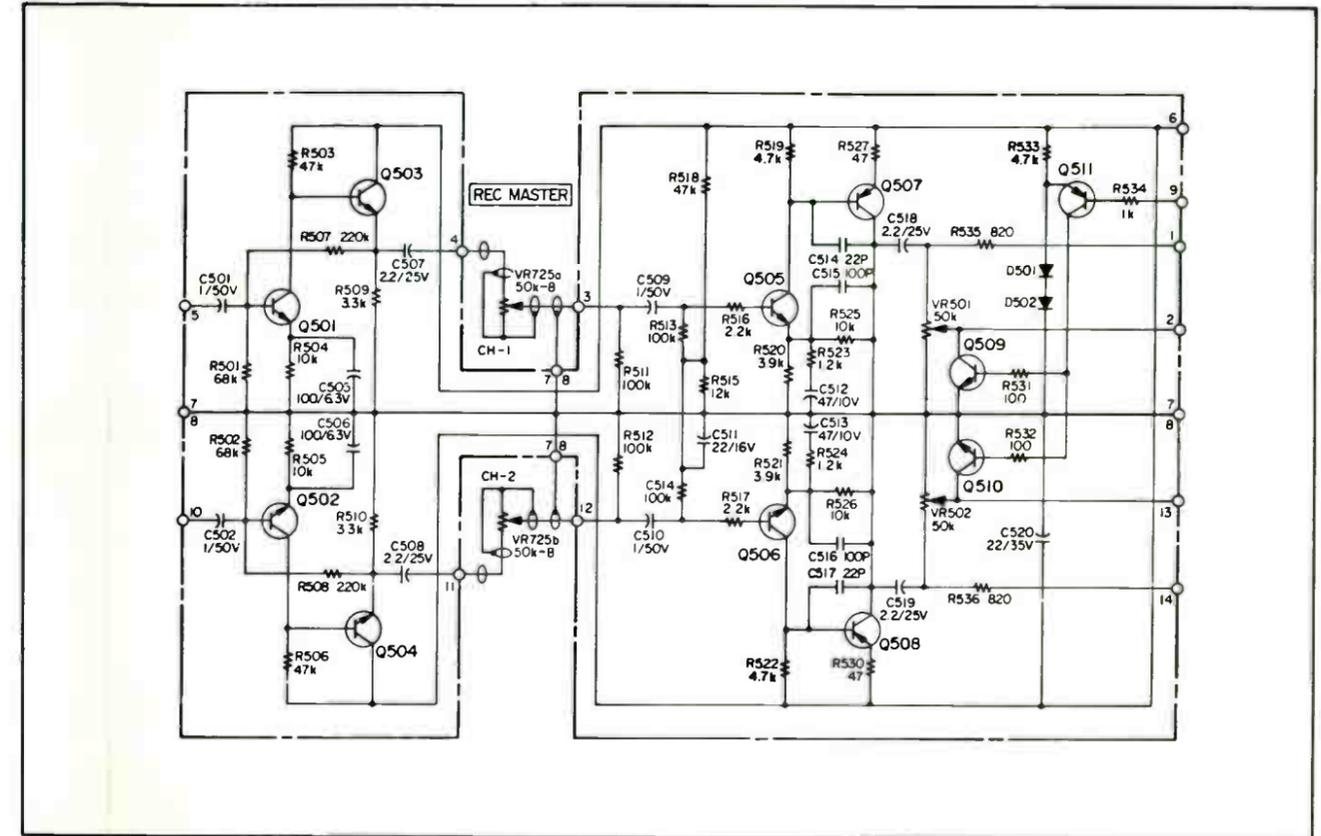

Figure 4-12. Mix Line Amplifier Schematic
**4-23. Mix Line Amplifier.** Refer to schematic, Figure 4-12. The mix line amplifier PWA includes the following three circuits: